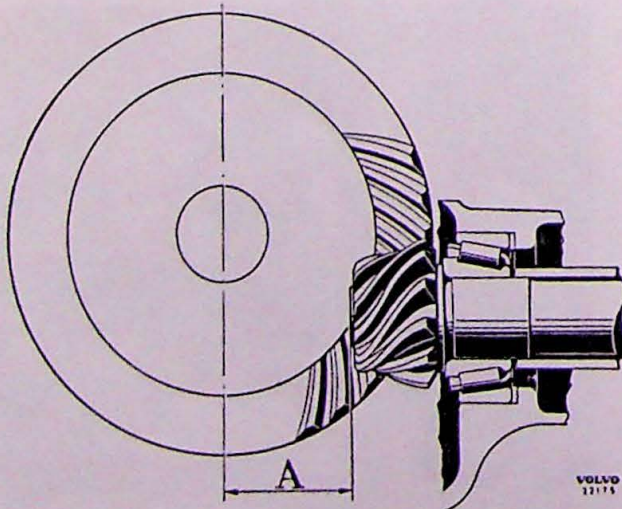

Fig. 5-23. Pinion location
5. Replace the press tool SVO 1845 with a washer and nut. Tighten the nut to a torque of 28—30 kgm. (200—220 lb.ft.). Then check the pinion bearing tension. It should be relatively easy to rotate the pinion (10—20 lb.in. = 11.5—23 kgcm.). There should be no looseness. Bearing tension is adjusted by means of shims (26) on the forward pinion bearing.
6. There should be a certain nominal measurement (A, Fig. 5-23) to the center line of the ring gear. Due to tolerances in manufacture, however, there are deviations from this nominal measurement. This deviation is shown on the ground surface on the pinion by means of a figure with a plus or minus sign. If there is a plus sign in front of the figure, the nominal measurement is to be increased and in the case of a minus sign, the nominal measurement is to be decreased. The figure shown on the drive pinion is in thousandths of an inch.